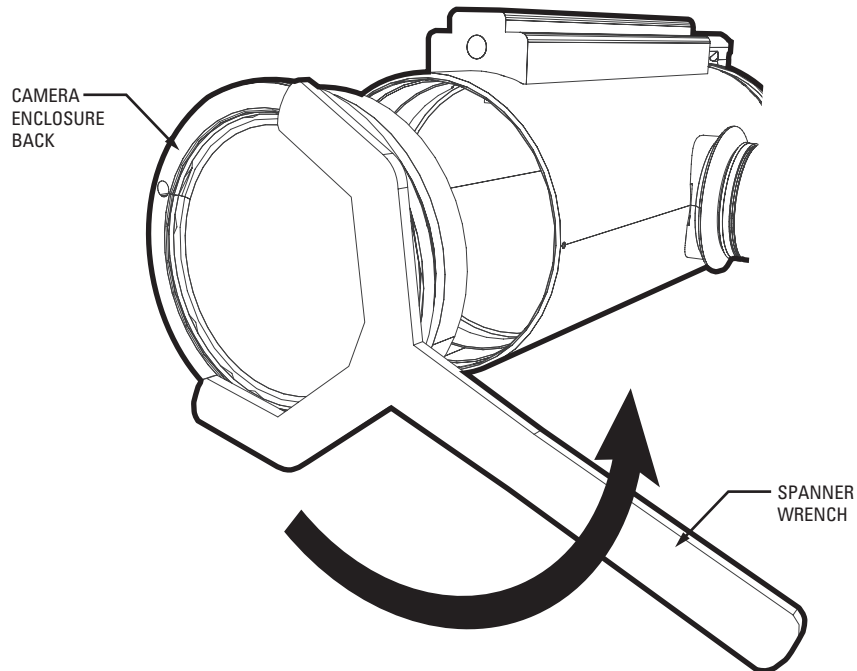

Figure 2. Remove Back Cap of Enclosure
2. Use the supplied spanner wrench to loosen the back of the camera enclosure (refer to Figure 2). Once the back is loose, use your hands to continue to loosen it until it can be removed.